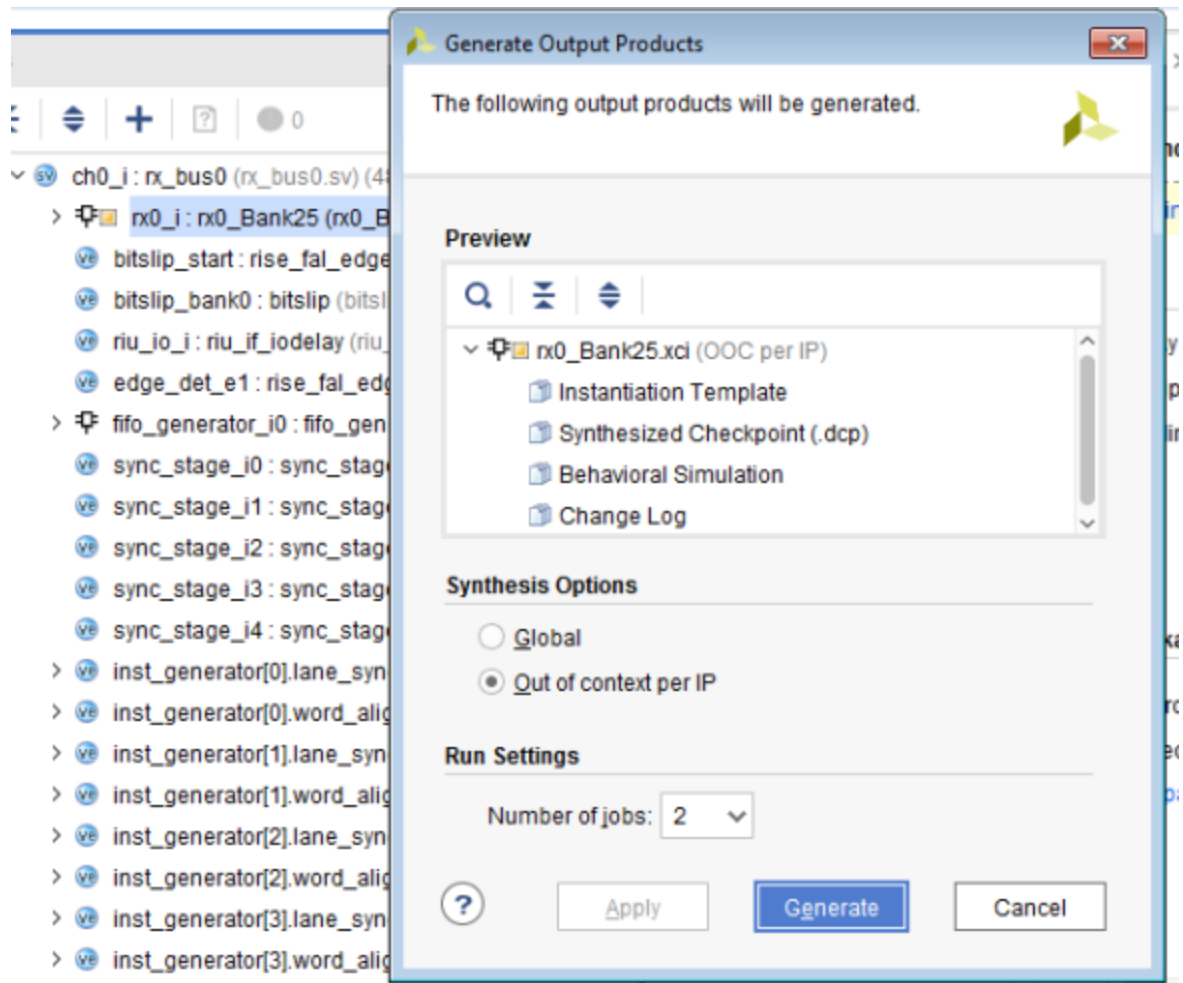

Fig 5(4)
- VII. Update the clock in period of the rx\_clk\_p[\*],rx\_clk\_n[\*] as 2/lane rate (ns) in LRX module XDC as in fig 5(5)